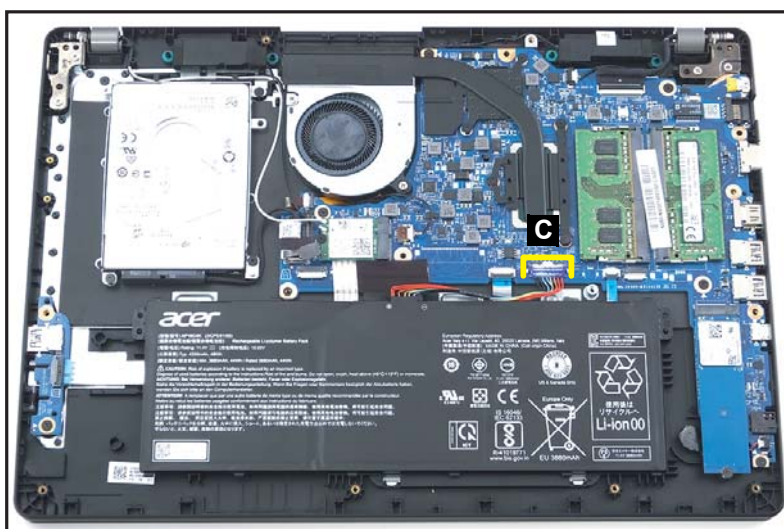

Figure 1-7. Battery Pack Removal
3. Disconnect the battery cable from the mainboard connector (C) (Figure 1-7).